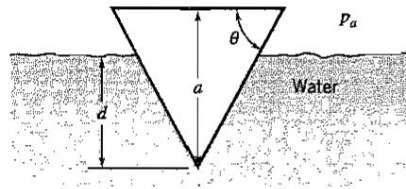

Figure P2.69
- 2.69** A two-dimensional symmetrical prism floats in water as shown in Figure P2.69. The base is parallel to the surface. If the specific gravity of the prism material is 0.25, find the ratio a/d .